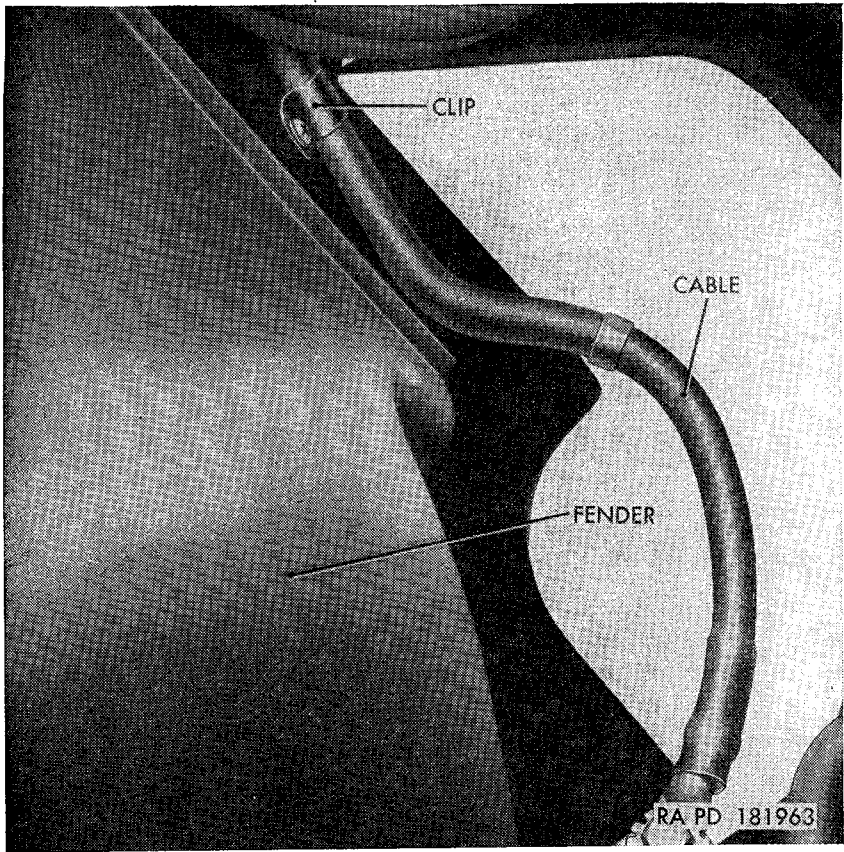

Figure 181. Battery ground cable secured to frame and fender.
- (1) Raise hood and lock in raised position (par. 255a).
- (2) Remove the nut and lockwasher screw and lift the clip (fig. 181) on the battery ground cable from the fender splash apron.
- (3) Disconnect rear of fender from body cowl (*a*(5) above).
- (4) Disconnect front of fender from radiator guard (*a*(6) above).
- (5) Disconnect the fender brace (*a*(7) above).
- (6) Pull fender to the right and remove from vehicle.
- (7) Remove antisqueak (webbing) (*a*(9) above).
- (1) Proceed as outlined in *c* (2) through (6) above.
- (2) Secure the clip (fig. 181) on the battery ground cable to the fender splash apron with one No. 10-24 nut and No. 10-24 x 1/2 lockwasher screw.
- (3) Lower hood and lock in closed position (par. 255*b*).